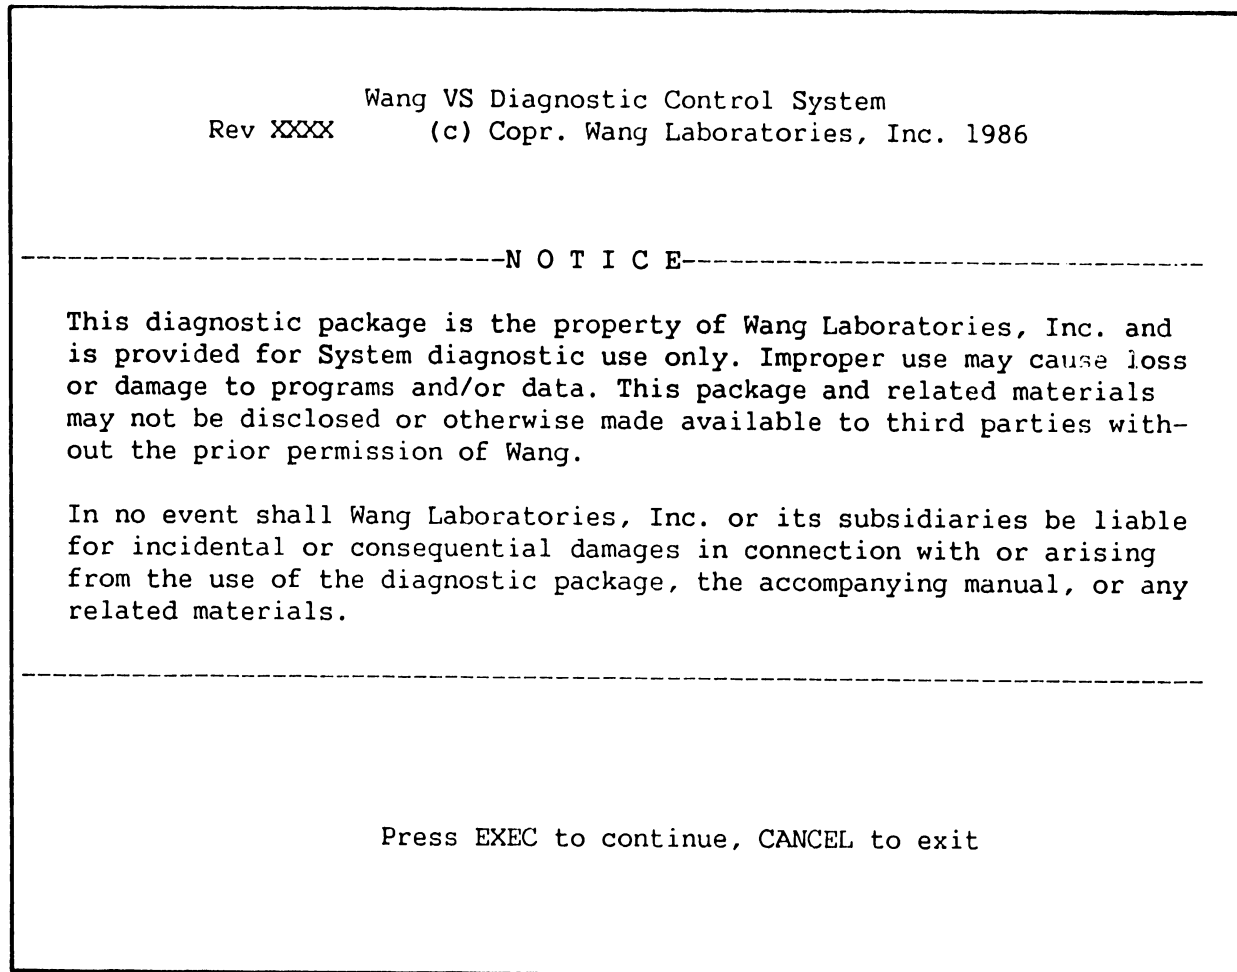

Figure 6-4. Diagnostics Disclaimer Screen
5. Press PF key 4 from the System Console Menu and the Diagnostics Disclaimer screen appears. See figure 6-4.